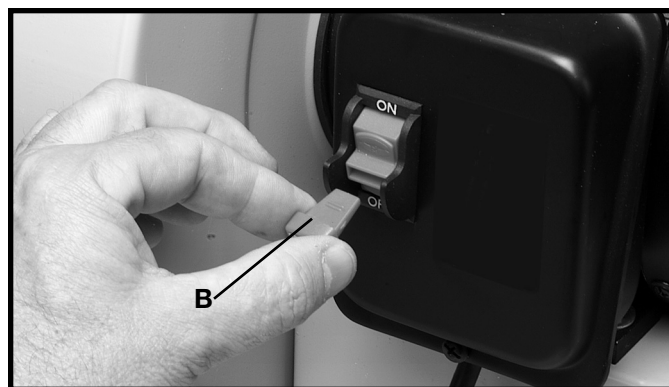

Fig. 25
IMPORTANT: When the machine is not in use, the switch should be locked in the **"OFF"** position to prevent unauthorized use. To lock the machine, grasp the switch toggle (B) Fig. 25, and pulling it out of the switch as shown. With the switch toggle (B) removed, the switch will not operate. However, should the switch toggle be removed while the machine is running, it can be turned **"OFF"** once, but cannot be restarted without re-inserting the switch toggle (B).